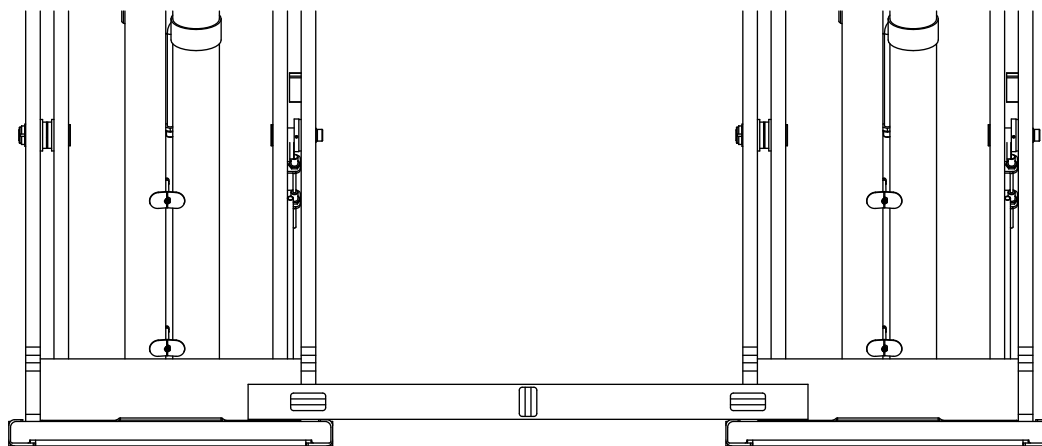

Fig. 9a
3. Verify platform bases are level to each other, Fig. 9a.